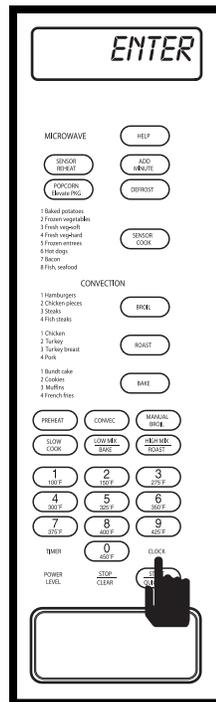

Figure 3-22.
1. Press the CLOCK key and “ENTER - TIME” will flash on display (See Figure 3-22).